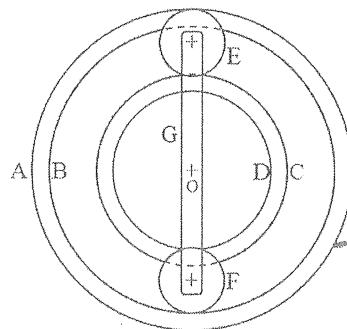

Figure Q5: Epicyclic Gear Train
- c) In an epicyclic gear train [Figure Q5], the internal wheels A and B, and compound wheels C and D rotate independently about axis O. The wheels E and F rotate on pins fixed to the arm G. E gears with A and C and F gears with B and D. All the wheels have the same module and the number of teeth: $T_C = 28$; $T_D = 26$; $T_E = T_F = 18$.